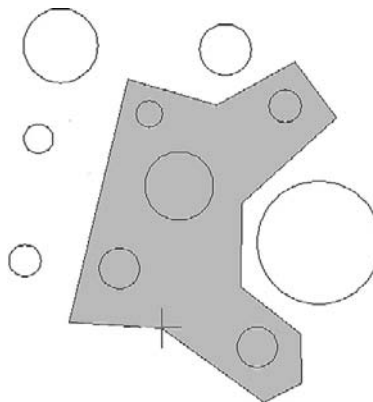

FIGURE 15.40
Step 1. Draw a set of circles, as seen in Figure 15.40.
Notice the difference here between the standard Window selection tool (strictly rectangular in nature) and the flexible “any shape you want it” Window polygon (Figure 15.40). Its action of course is similar; everything it encloses is selected.